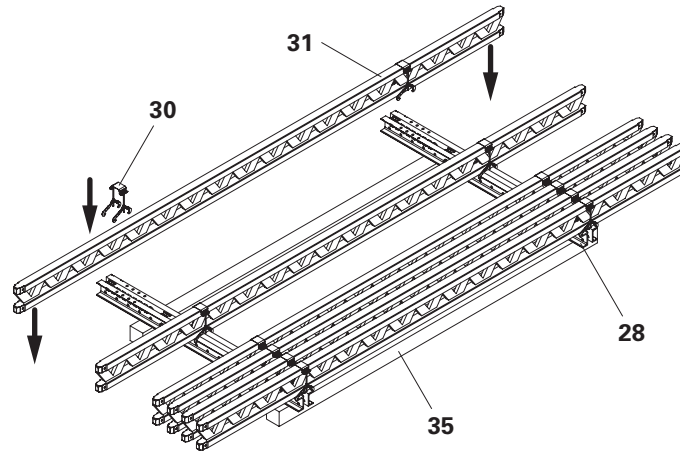
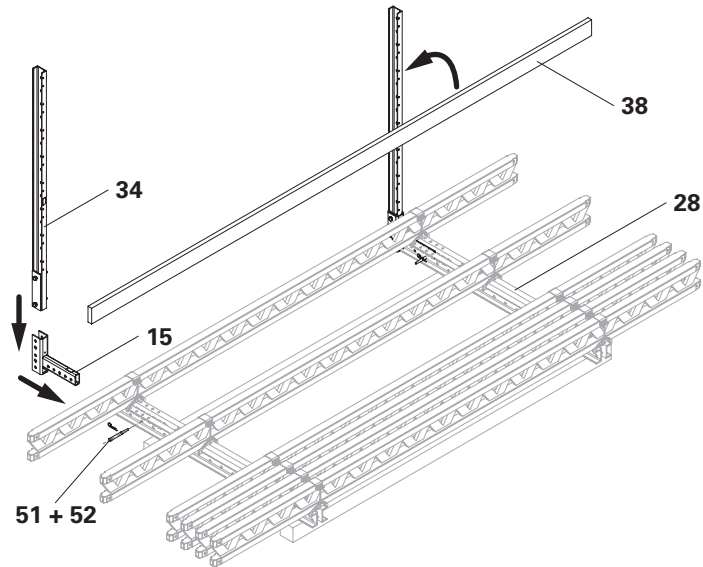

Fig. B4.01
Fig. B4.03
- (Fig. B4.01 + B4.02)
3. Fasten Elbow Connections RCS/SRU (15) to the Steel Walers Universal SRU (28) with two fitting pins $\varnothing 21 \times 120$ (51) and secure with cotter pins (52).
4. Screw Guardrail Posts RCS 226 (34) tightly onto the Elbow Connections RCS/SRU (15).
5. Screw handrail boards (38) onto the Guardrail Posts RCS (34) with round head bolts M8 x 70 (60) and nuts M8 (61).
- (Fig. B4.03)